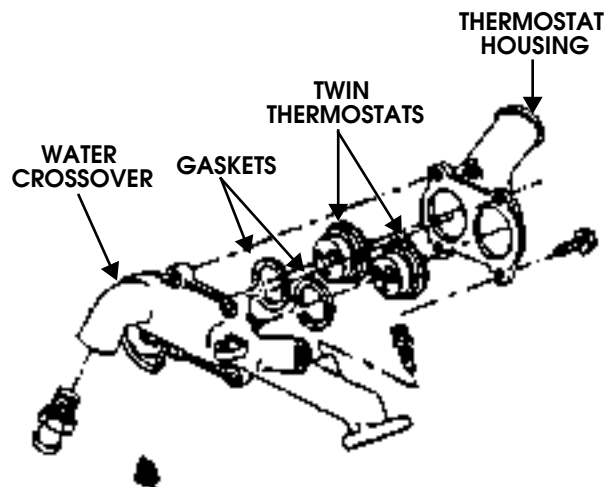

Figure 2-74: Water Crossover Mounting
2. Remove crossover attaching bolts/studs and remove crossover. Discard crossover gaskets (Figure 2-74).
3. Remove thermostat housing and thermostats if required. Note that turbo diesel has two thermostats (Figure 2-74).